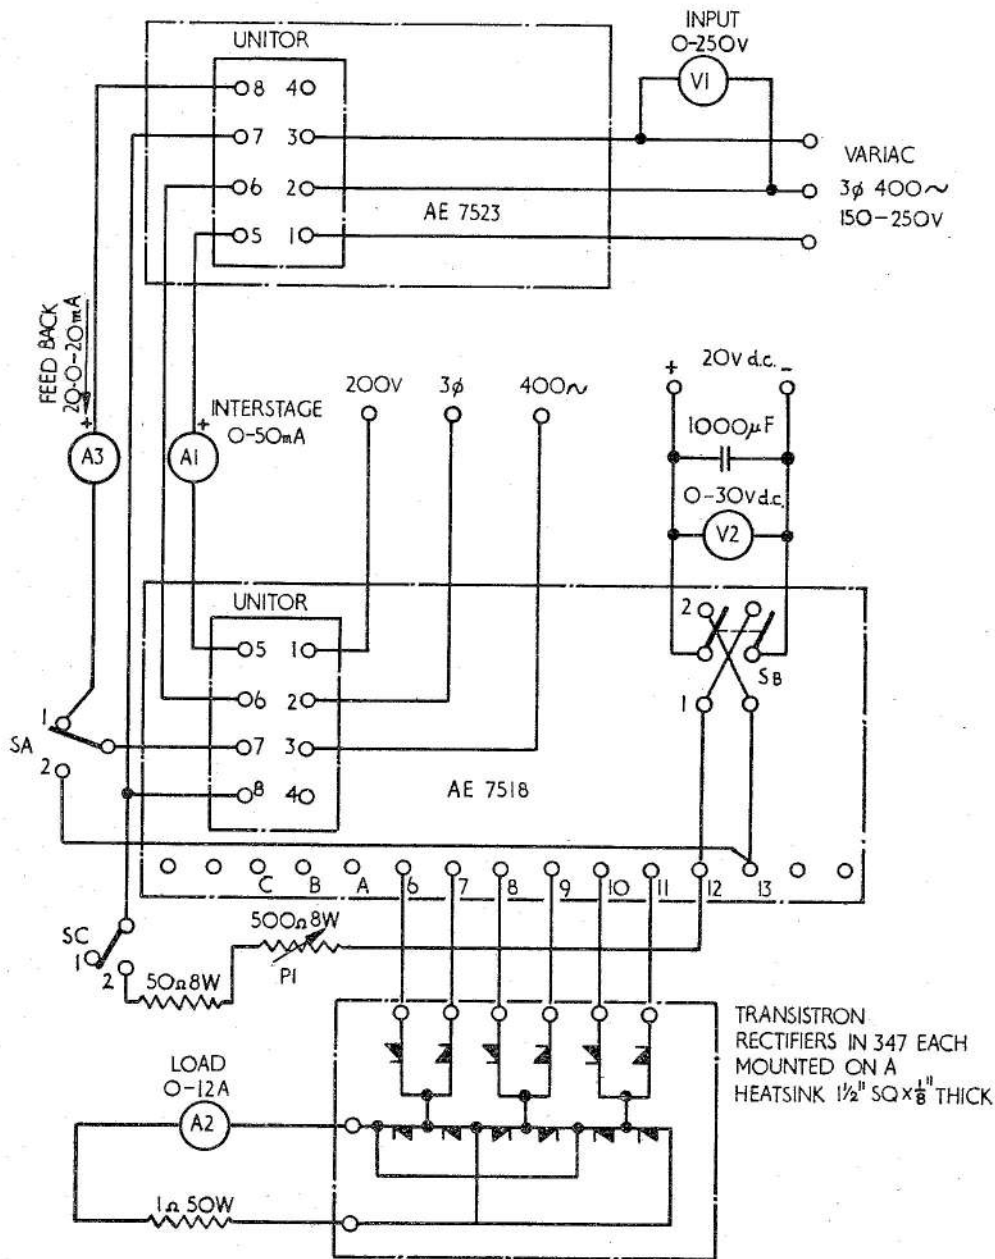
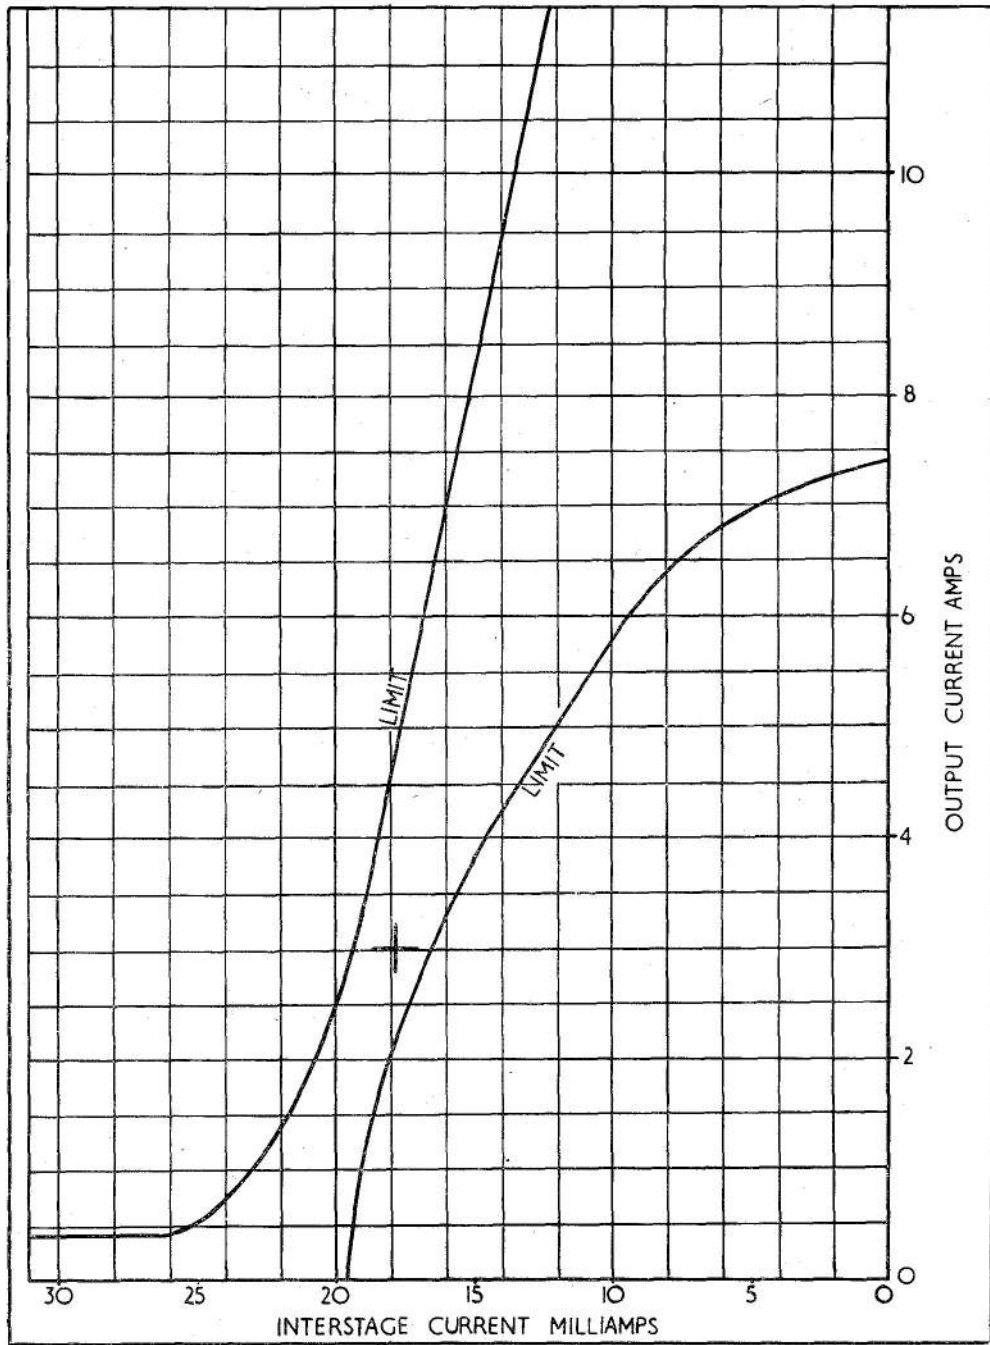

Fig. 6. Functioning test circuit
Fig. 8. Characteristic limits (amplifier unit)
26. The unit is to be connected to the test circuit shown in fig. 6 using a slave AE7518 unit of proven serviceability. The switches SA, SB and SC are to be set to position 1 and the reading of V2 adjusted to 20V. With reading 200 volts the trimmer on the AE7523 unit is to be set to give an inter-stage current as indicated on A1 of 18 mA.
30. Connect the unit in the circuit detailed in fig. 6 using a slave AE7523 unit of proven serviceability. Operate each of the switches SA, SB and SC to position 1 and adjust the reading of V2 to 20 volts. The feed back current is to be within +5 and +8mA. By adjusting the voltage reading of V1 with the variac, set the interstage current (indicated by A1) to 18 mA. If the output is less than 3.0A close switch SC and using P1 increase the feedback current indicated by A3 so that the output current shown on A2 is 3.0A. The required change in A3 must not be more than 14 mA. Vary the interstage current over the range 0 to 30 mA in at least 10 suitable increments, taking readings of output and interstage currents. The characteristic obtained is to be within the limits outlined in fig. 8.